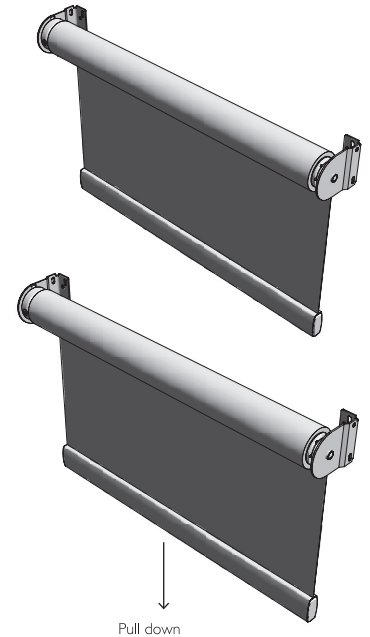

Fig. 6
6. Check the tension of your blind by pulling it down gently (Fig. 6. Pull down).